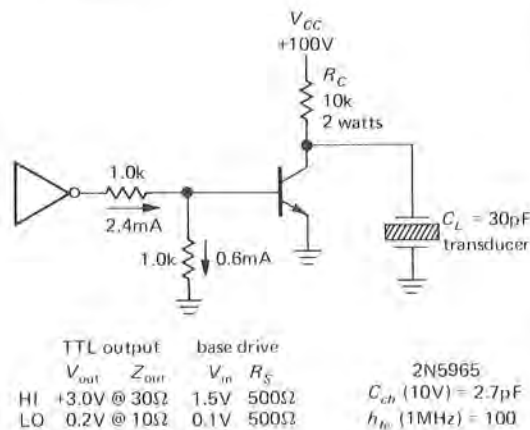

Figure 13.55
Let's begin with the circuit in Figure 13.55. It is a simple inverting stage intended for driving a piezoelectric crystal with 100 volt pulses, generated originally with TTL logic. The TTL output, and therefore the base driving signal, is roughly as indicated. In these calculations we will ignore  $\tau'_b$ , which is small compared with the source impedance.
(2) What is the impedance looking into a length of coaxial cable that is (a) open-circuited at the far end, and a quarter wave long, electrically, at the frequency of interest, (b) short-circuited at the far end, and a quarter wave long, electrically, at the frequency of interest, (c) same as (a), but a half wave long, (d) same as (b), but a half wave long? The result in (d) is the basis of the so-called choke joint used in waveguides.
(3) Work out in detail the rise time and fall time of the high-voltage switching circuit in Figure 13.55, as summarized in Section 13.25. Use  $V_{BE} = 0.7\text{V}$ .